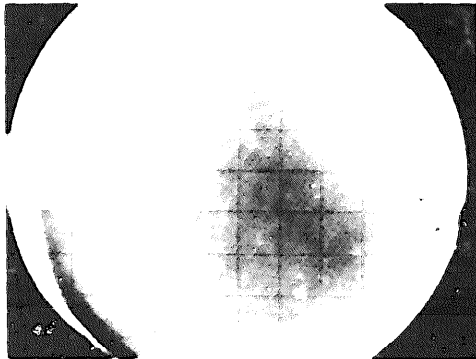

Figure 1-6. Background illumination occurs when erasing with WRITING RATE in MAX
- i. **BACKGROUND ILLUMINATION** - A green cloud illumination visible on the CRT screen, Figure 1-6.
n. Fig. 1-6 thru 1-13 are provided to show typical CRT displays with various control settings and input signals. They are examples which, if duplicated by the operator, will aid in understanding the operation of the Model 141A. Fig. 1-13 shows small bright spots on the CRT screen which are caused by minute imperfections in the storage mesh.